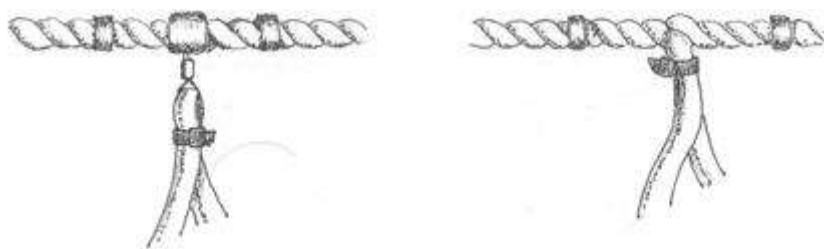
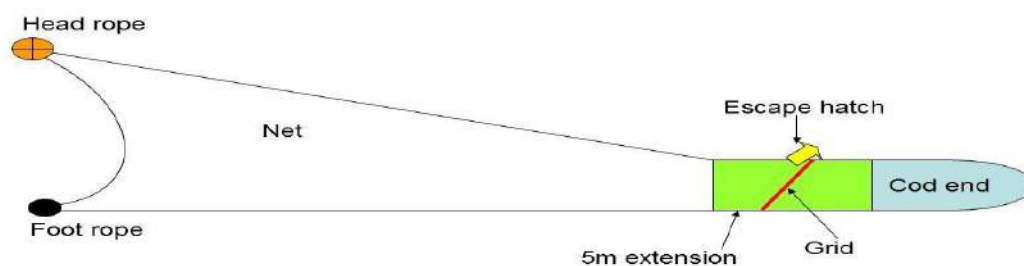
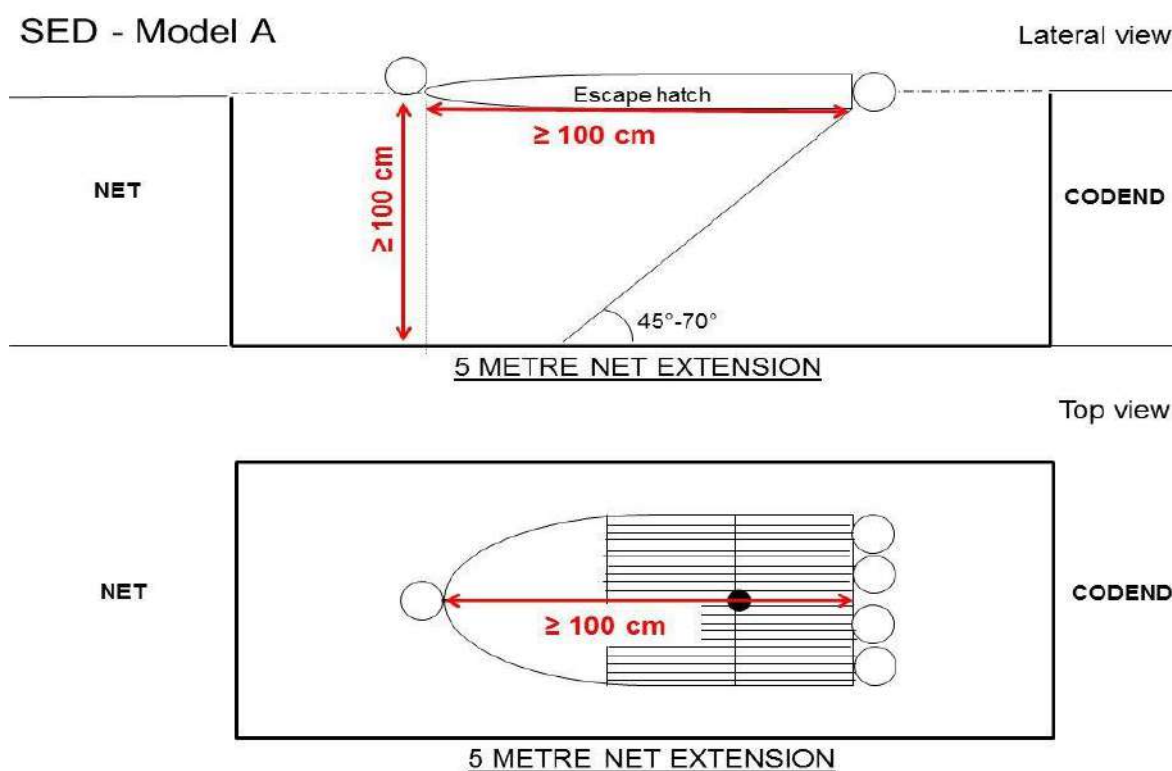

Fig 1a. Design of Approved Bird Scaring Lines
Fig.1. General diagram SED-A with 5 m net extension
Fig.2. Lateral and top view of SED-A.
- e) All vessels must conform to the following design of Tori Lines as shown in figures 1a and 1b below. This design has been tested and shown to significantly reduce the number of seabirds hitting the trawl warps whilst foraging astern of fishing vessels, reducing bird entanglements and improving durability.
- (ii) Six double streamers are to be attached at the intervals indicated in Fig 1. Attachment may be by light weight swivels (less than 50 grams) with stoppers or directly into the lay of the rope (Fig 1a). Streamer lengths range from 2 x 8 metre streamers closest to the stern to 2 x 3 metre streamers nearest the buoy. The length of the first set of streamers (2 x 8 metre and 2 x 7 metre) may be adjusted to optimise mobility and reduce drag (Fig 2). The length of these two sets may vary between 2 x 7.5 - 8.5 metres and 2 x 6.5 - 7.5 metres for the first and second respectively (Fig 1a).
- i. **SED – Model A:** The SED is installed in a net extension piece [a net extension of c 5m has proved effective] in front of the codend to improve the water flow (Fig.1, 2).